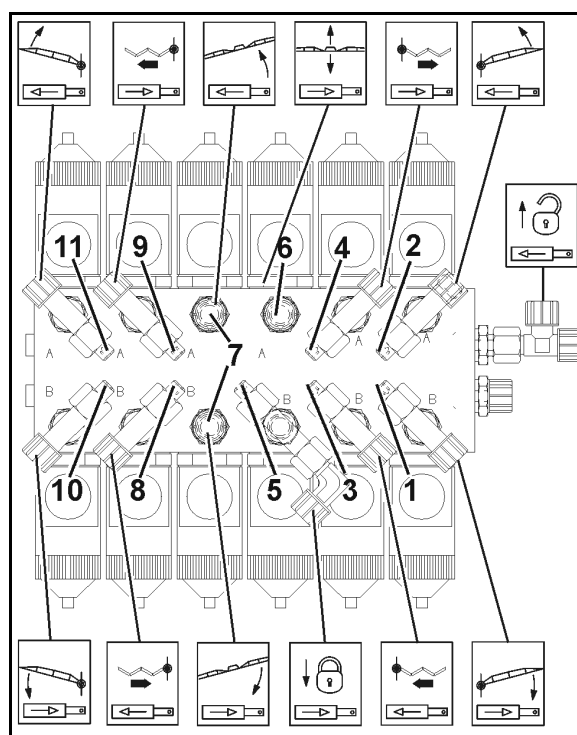

**Fig. 149**
1. Unscrew the magnetic cap (Fig. 149/1) abschrauben.
2. Remove the solenoid (Fig. 149/2) abnehmen.
3. Unscrew the valve rod (Fig. 149/3) with valve seats and clean with compressed air or hydraulic fluid